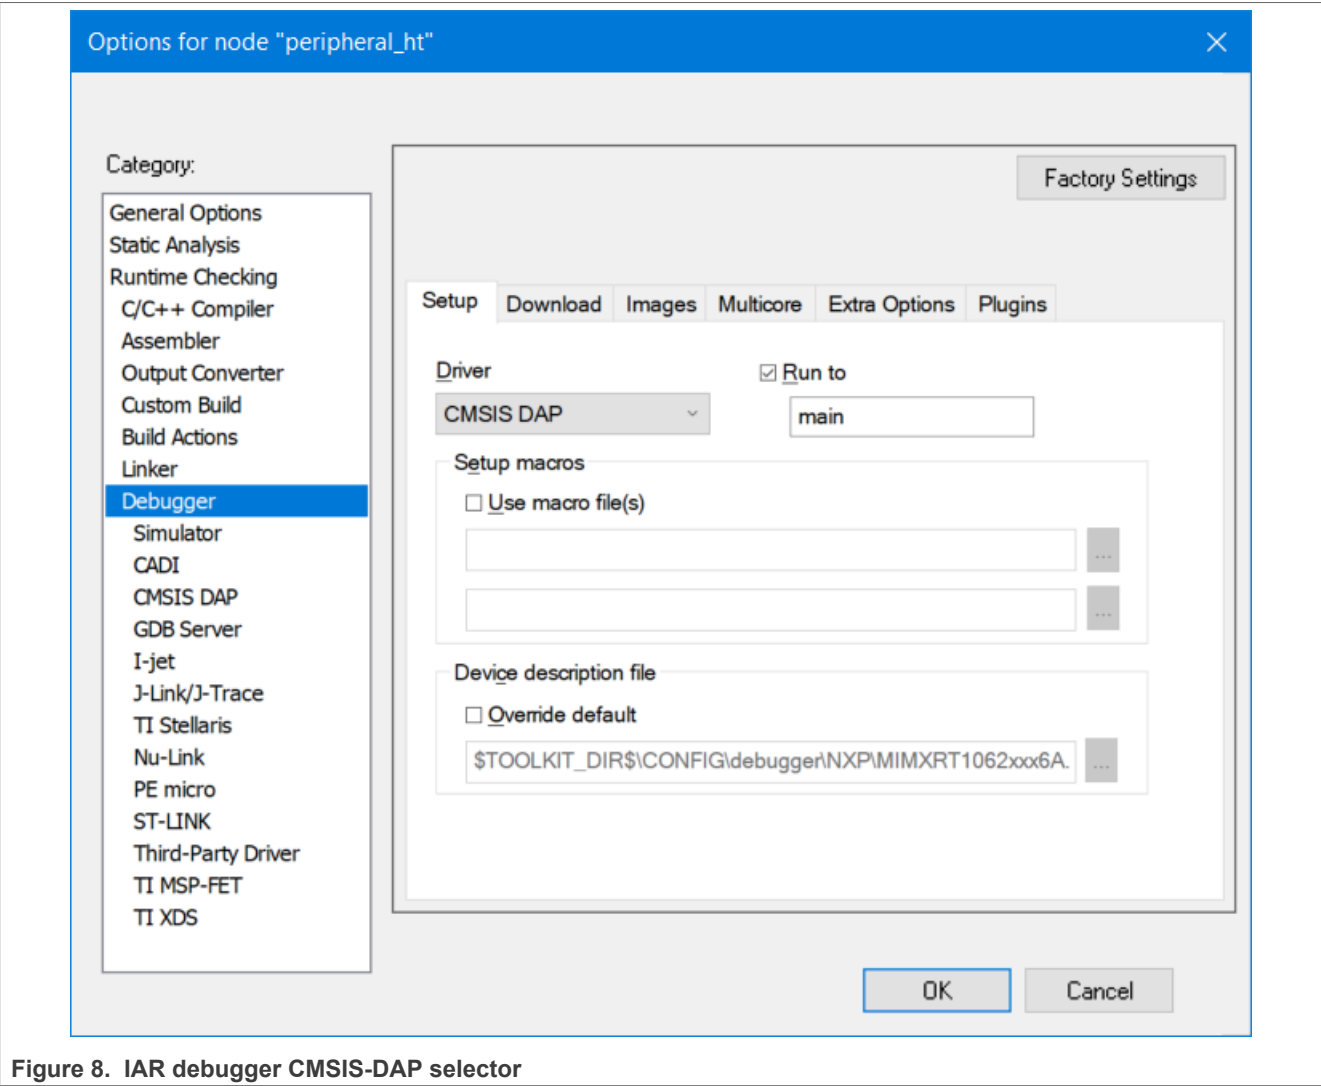

Figure 8. IAR debugger CMSIS-DAP selector
3. Make the appropriate debugger settings in the project options window, as shown in Figure 8.